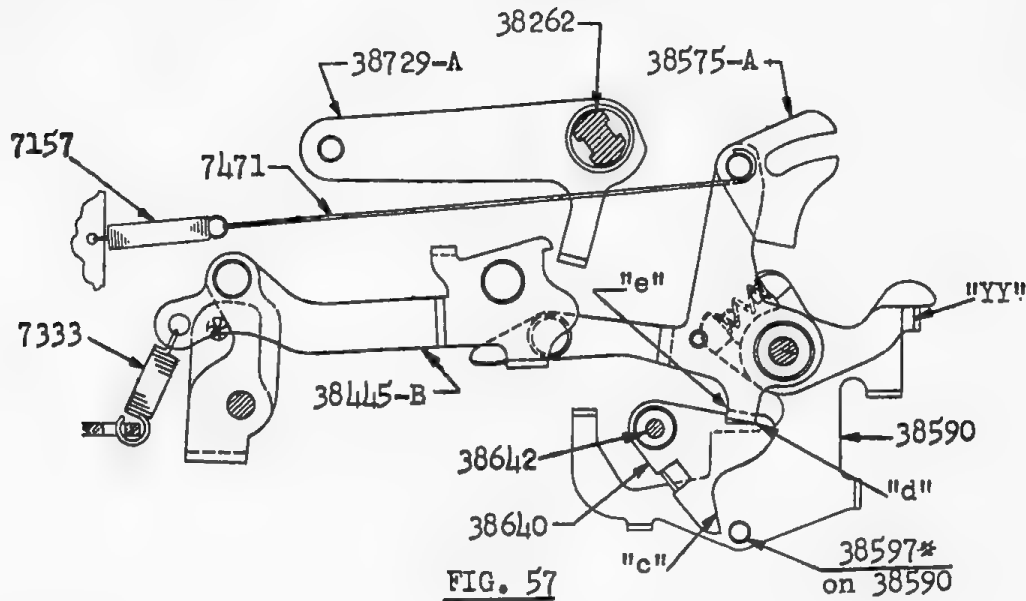

FIG. 57
6. (Fig. 57). In order to return the carriage to its normal decimal position to point out the answer in the Product Dials, the Shift Direction mechanism must be brought back to tab control. When the Terminating Lever-38590 rocks clockwise its Stud-38597* contacts surface "c" on the Positioning Lever Latch-38640 and rocks it clockwise,